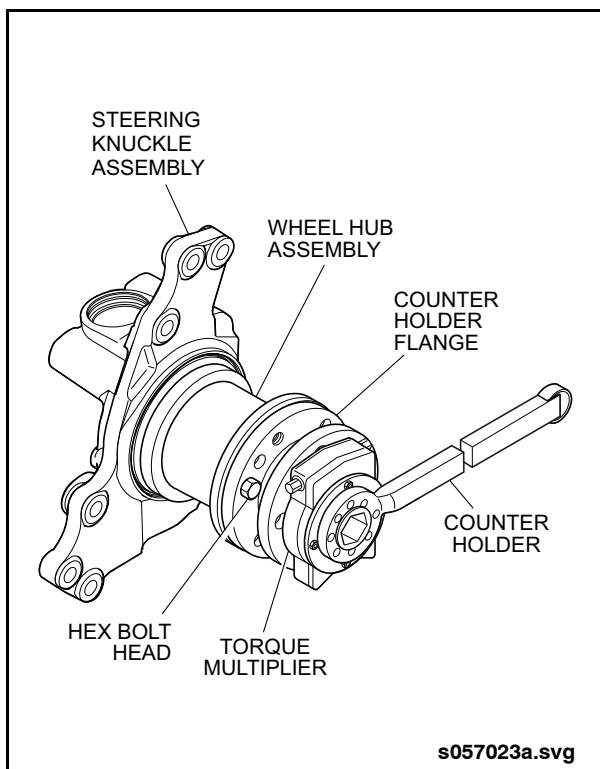

Fig. 1-13: Wheel Hub Nut Removal
5. Install counter holder flange, torque multiplier, counter holder and torque reaction arm (Items 31, 32, 33, & 34 from special tools list) on end of hub and over slotted nut socket. See "Fig. 1-13: Wheel Hub Nut Removal" on page 16.